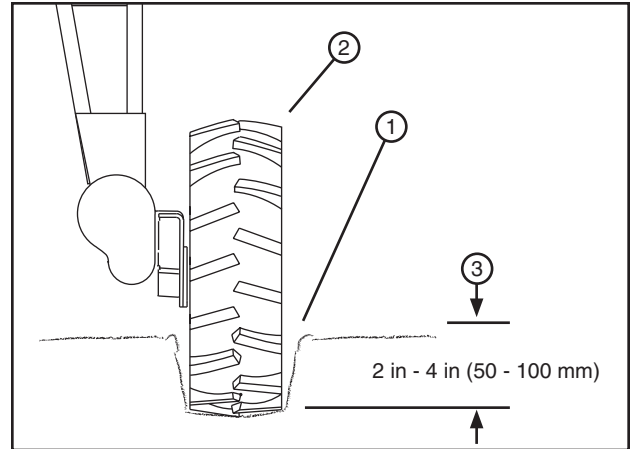

Figure 35-1 1. Wheel track
- Wheel track depths must not exceed 4 in (100 mm). 2 Wheel Linear swing around must not exceed 2 in (50 mm). See figure 35-1.